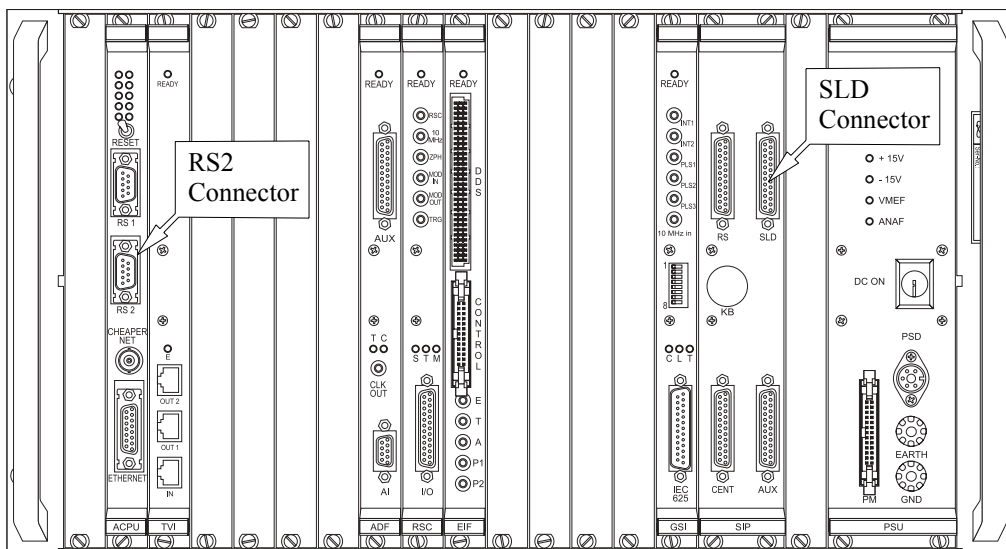

Figure 12-5 Connecting the RS 232 cable to the console.
1. **Connect the RS 232 cable. (For ER 4131VT and ER 4121VT systems.)** Open the front door of the console. Use the RS 232 cable to connect the RS 232 connector of the BVT temperature controller to the RS2 connector of the ACPU board in the Elexsys console. (See Figure 12-5.)
2. **Connect the Slow Device Bus cable. (For ER 4111VT systems only.)** Open the front door of the console. Connect the COMPUTER connector on the BVT 1000 temperature controller to the SLD connector on the SIP board of the acquisition server using a 25 pin Slow Device Bus cable. (See Figure 12-5.)